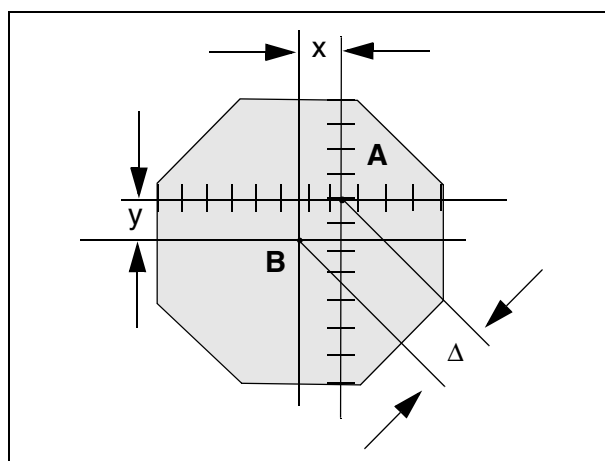

Fig. 4
5. Read the evaluation at the TV Monitor (Fig. 4).
7. Test results (see also Fig. 4):